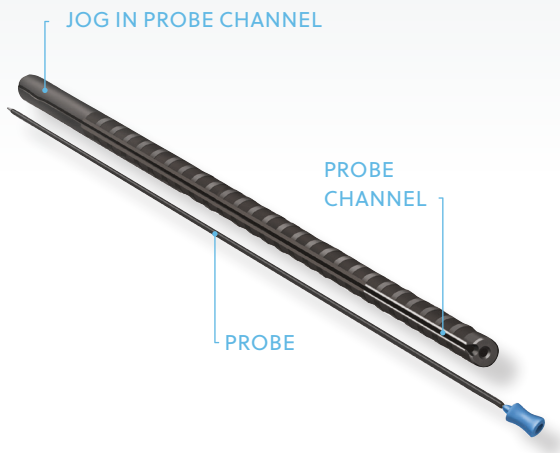

Figure 3a
- A jog in the initial dilator's probe channel provides resistance as the monopolar probe is advanced. This will keep the monopolar probe from backing out of the dilator as it passes through the soft tissue (**Figure 3a**).